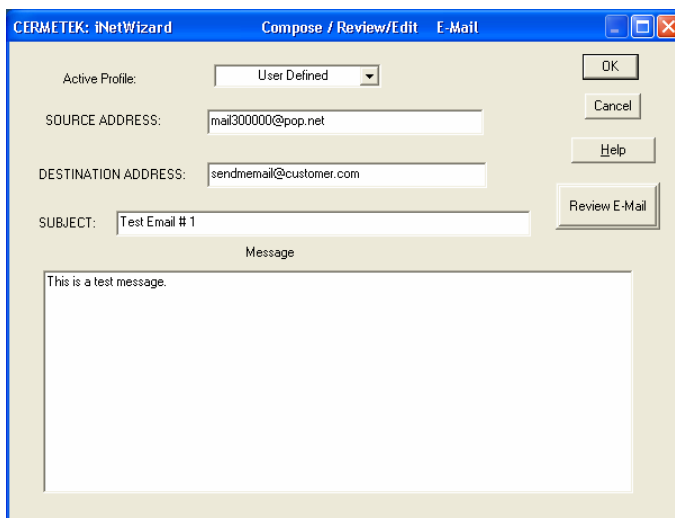

Figure 22. iNetWizard® Compose/Review/Edit Email window after all specified modifications per Example 3.
Step 2D. Edit the body of the message. As in Step 2C, highlight the body of the message and make the character edits. The <CR> may be used as often as required. By convention, each occurrence of <CR> inserts the <CR><LF> combination. The complete changes are displayed in Figure 22.